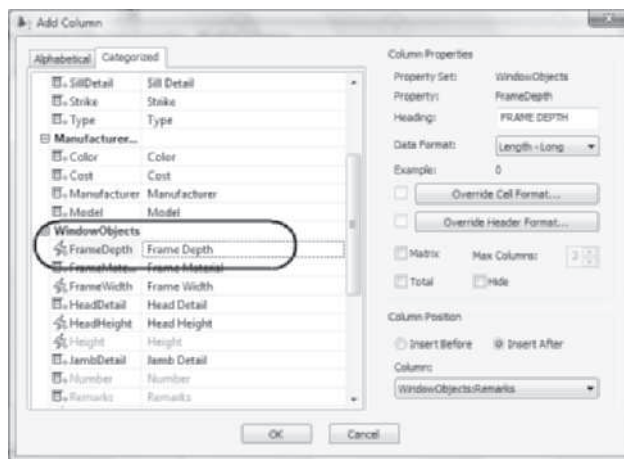

FIGURE 11.61 Adding a Frame Depth column to the window schedule
12. Select the **Add Column** button to open the **Add Column** dialog box. Scroll down the list of properties in the left column and select **FrameDepth** from the **Window-Objects** property set. Overtyping **FRAME DEPTH** in the **Heading** field of the **Column Properties** section at the right. Set Data Format = **Length-Long**. Select the **Insert After** radio button of the **Column Position** section and select **WindowObjects: Remarks** from the drop-down list as shown in Figure 11.61. Click **OK** to dismiss the **Add Column** dialog box.